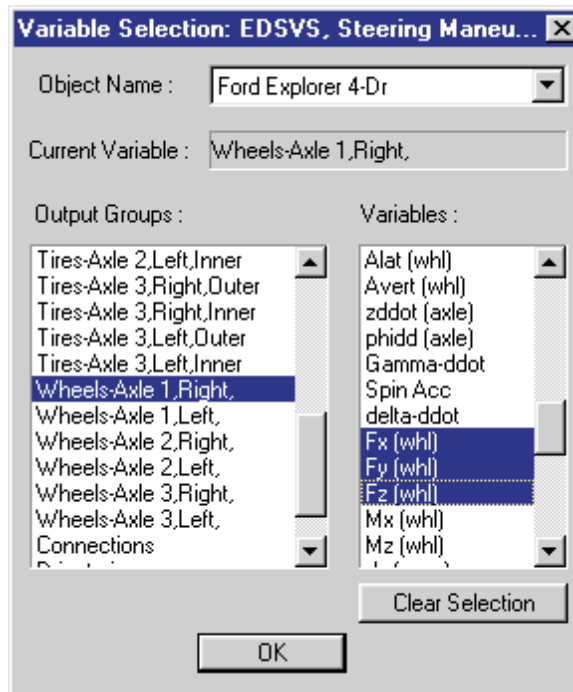

Figure 5-7 Key Results Variable Selection dialog, used for selecting variables to be displayed in the Key Results window.
- Choose *Wheels, Axle 1, Right* from the variable output groups list. The Variable Selection list for the right front wheel is displayed (see Figure 5-7, above).